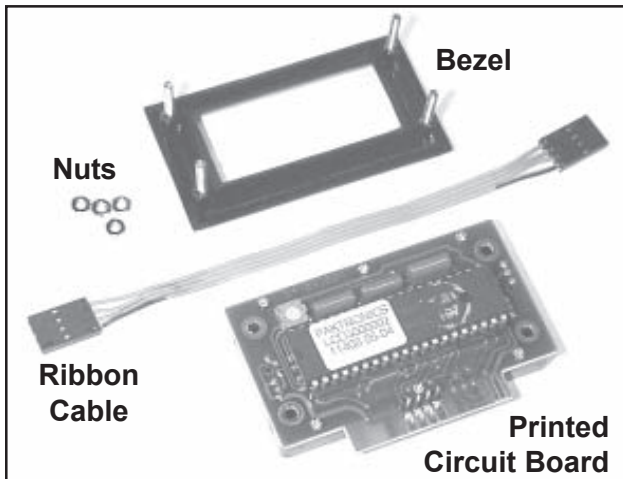

Figure 28. Digital Display Parts
3. Secure the assembly together with the four nuts removed above (Figure 28). **Note:** Four spare nuts are provided with the new display. None of the other hardware items supplied in the bag assembly will be needed for this installation.